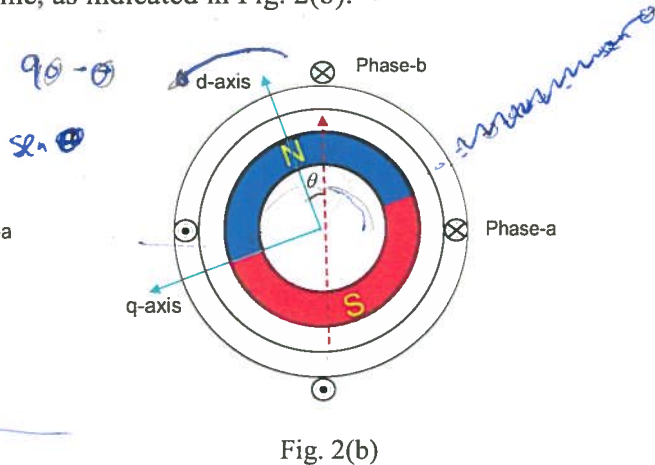

Fig. 2(b)
- (3) If the phase-a PM flux linkage waveform is expressed as: $\lambda_{pm,a} = \lambda_{mpm} \cos \theta$. (where λ_{mpm} is its peak value and θ is the rotor position as indicated in Fig. 2), please give the PM flux linkage waveform for phase-b.
- (4) If phase-a is now supplied with a current of $i_a = -I_m \sin \theta$ (where I_m is the peak value of the current), please determine the needed current waveform for phase-b.
- (5) Please show the instantaneous torque produced by phase-a and phase-b, respectively.
- (6) Please give an expression for the total torque produced by phase-a and phase-b together.